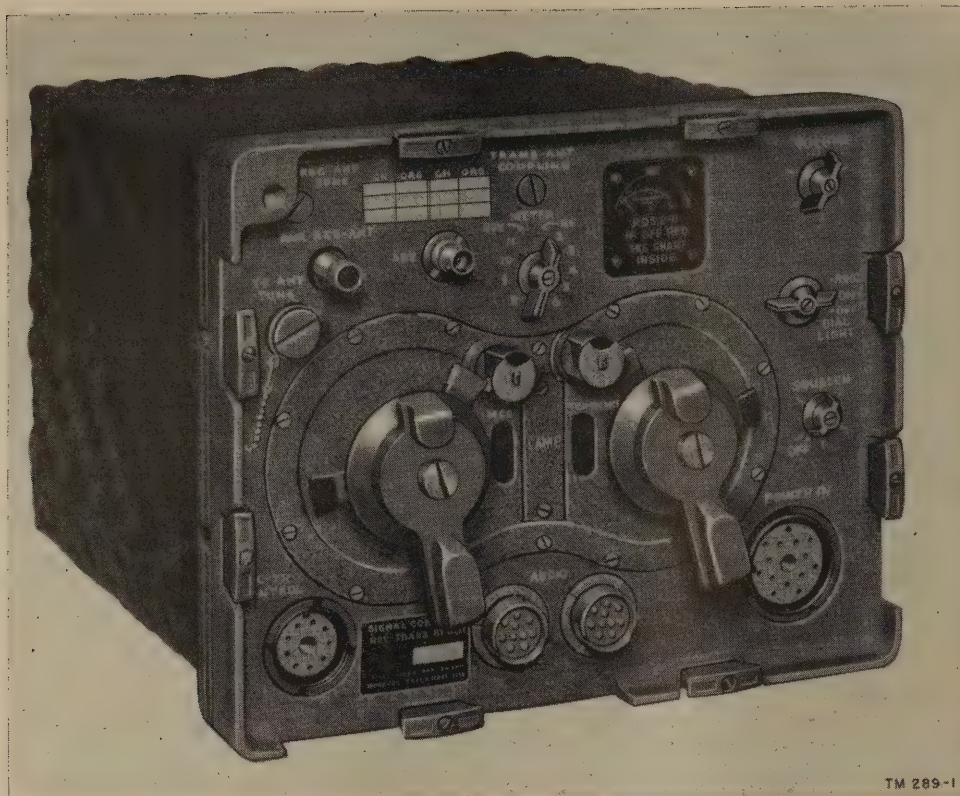

Figure 4. Receiver-Transmitter RT-66/GRC.
a. Receiver-Transmitters RT-66/GRC, RT-67/GRC, and RT-68/GRC are used in Radio Sets AN/VRC-20, -21, and -22, respectively. The receiver-transmitters are very similar in structure, function, and detailed circuit and mechanical arrangement. They differ from one another in their operating frequency ranges and in those components which determine the frequency range. Therefore, Receiver-Transmitter RT-66/GRC (fig. 4) is externally similar to the other receiver-transmitters except for the calibrations of the tuning dial. Characteristics pertinent to system operation are listed in paragraph 5. Complete information on the receiver-transmitters is contained in TM 11-289.
d. Structurally, the receiver-transmitters are panel-chassis assemblies inclosed in a metal case (fig. 4). The bottom of the case is fitted with channel rails which are used to secure the unit to the vehicular mounting. When the case is removed, the r-f and i-f (intermediate-frequency) chassis assemblies are available at either side of the unit (figs. 52 through 54). All tubes are mounted on these vertical chassis.